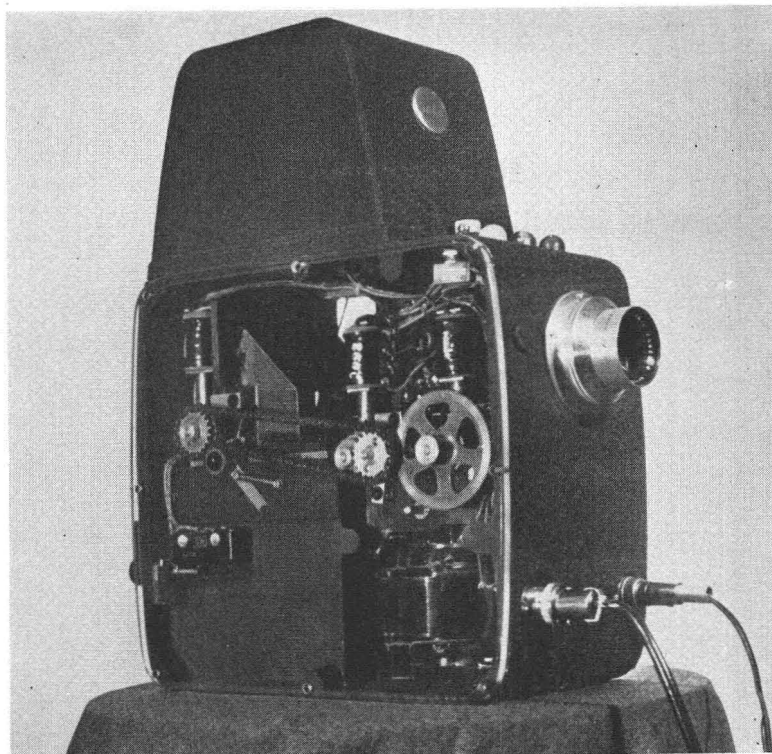

FIG. 4. PhotoMetric camera.
(1) *Camera.*—The PhotoMetric Camera (Figure 4) was especially developed, after extensive research by the Eastman Kodak Company, for the exclusive use of this process. It is electrically operated (60 cycle alternating current only, 105–125 volts) and the lighting values and focus have been computed and permanently set in.